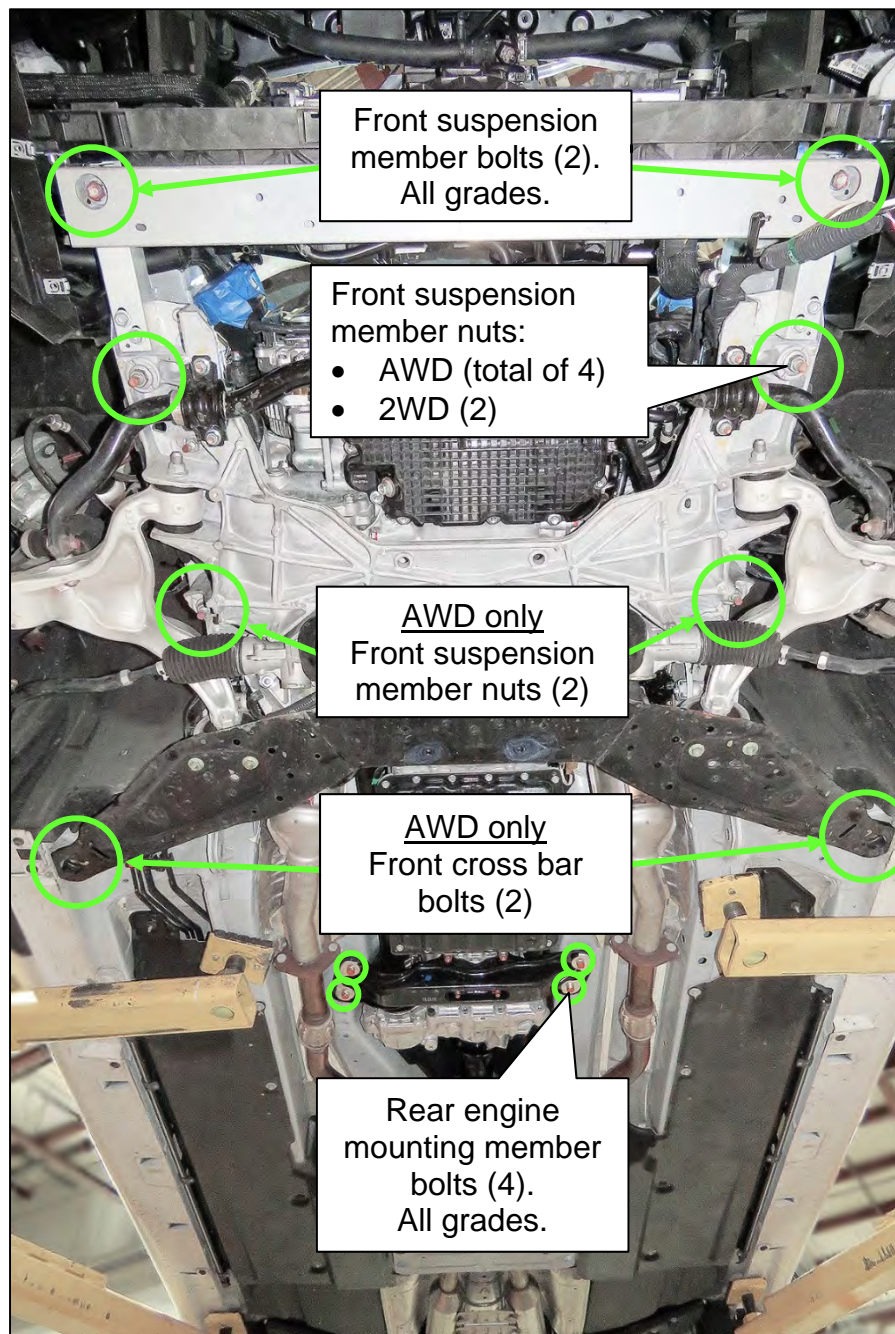

Figure 42
59. Remove the four (4) rear engine mounting member bolts (Figure 42).
60. Remove the front suspension member nuts and bolts indicated in Figure 42.
- AWD has a total of four (4) front suspension member nuts.
- 2WD has two (2) front suspension member nuts.
- Two (2) front suspension member bolts (both AWD and 2WD).
- AWD only: Two (2) front cross bar bolts.
HINT: Figure 42 is of an AWD vehicle. Nut and bolt locations are similar for 2WD.